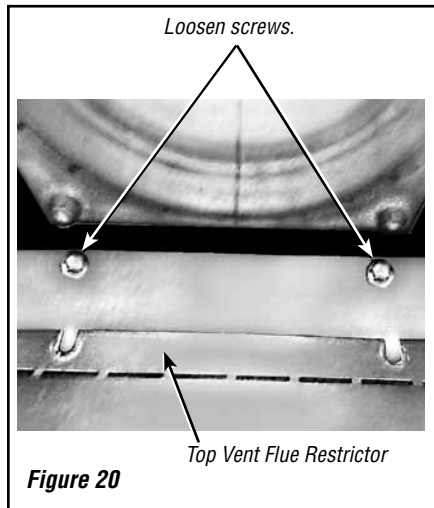
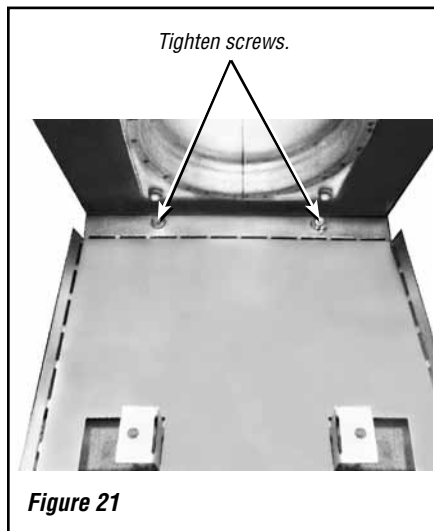

Figure 20
Figure 21
2. Install the top vent flue restrictor by sliding the two notches in the top vent flue restrictor (Figure 20) under and behind the two screws loosened in the previous step, and then tighten the screws (Figure 21).